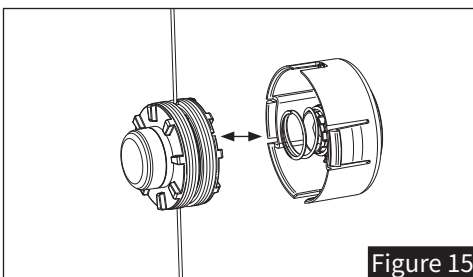

Figure 15
- Take the new line spool and pull out 10cm of line from both ends (see Figure 15).
- Adjust the strap length so that the snap hook (Figure 15, Item K) rests approximately one hand's width below your right hip.